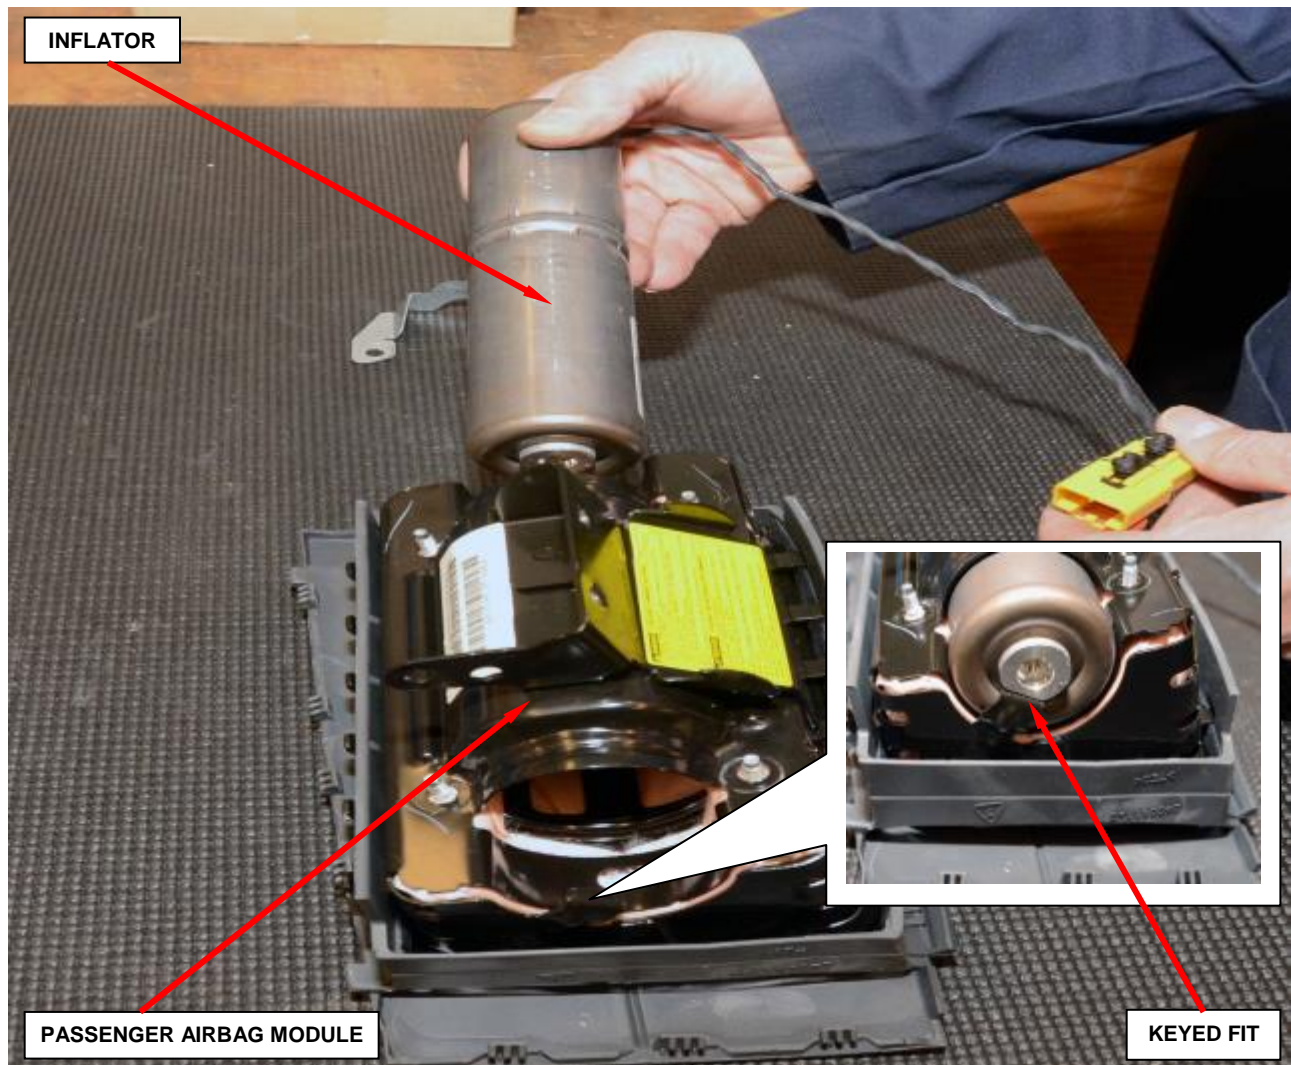

Figure 96 – Passenger Inflator Installation
- g. Slide the new inflator into the passenger airbag module (Figure 96).
NOTE: The inflator is keyed to fit into the housing (Figure 96).